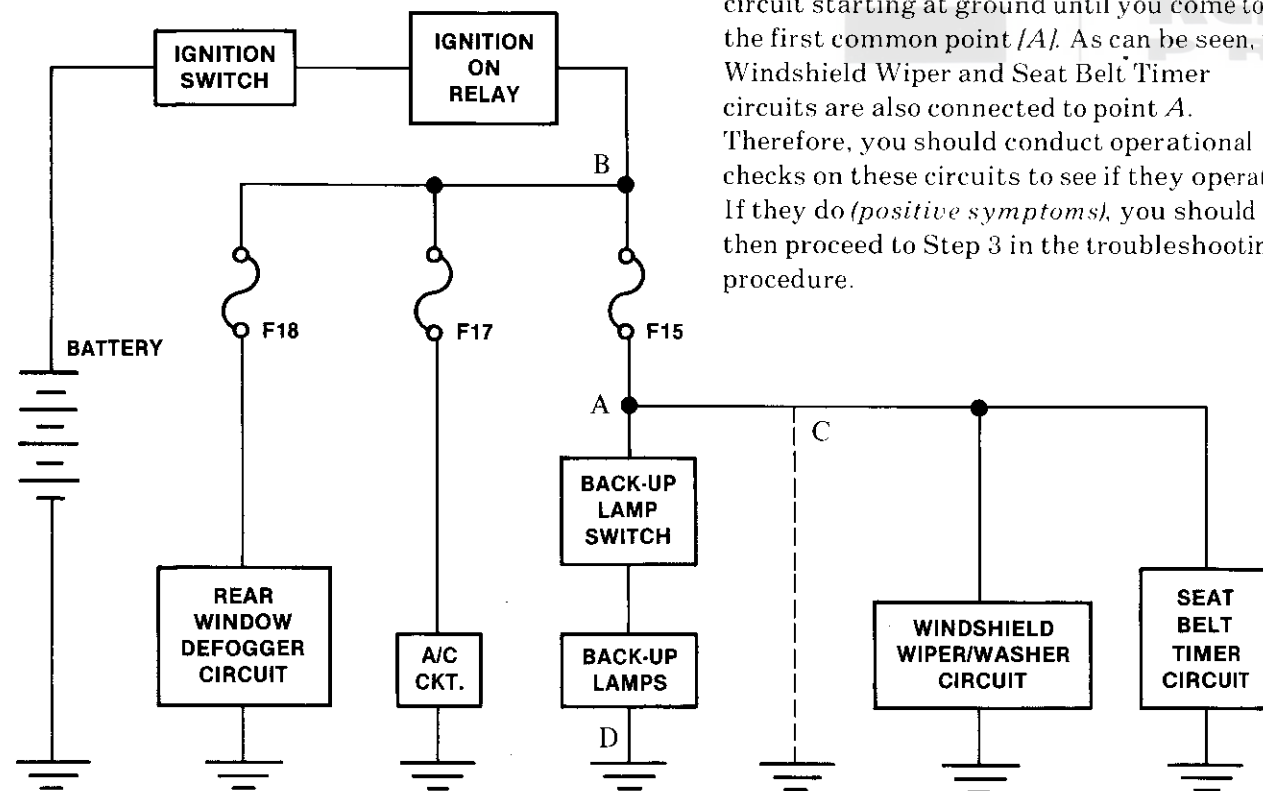

Fig. 1
Determining related symptoms is a very important step. It will save you much time in the long run. In order to get additional information about where the problem exists, *related symptoms* are found by conducting *operational checks* on circuits which are connected to the problem circuit. Operational checks are made *without* the use of test equipment. Your most important tool will be the *schematic*. For example, refer to Fig 1. If the customer complaint was that the Back Up Lamps didn't work, you would trace the circuit starting at ground until you come to the first common point /A/. As can be seen, the Windshield Wiper and Seat Belt Timer circuits are also connected to point A. Therefore, you should conduct operational checks on these circuits to see if they operate. If they do (*positive symptoms*), you should then proceed to Step 3 in the troubleshooting procedure.
After conducting operational checks (*Step 2*), the trouble will always lie between a check which resulted in *negative* symptoms, and a check which resulted in a *positive* symptom. Consider the following examples (*refer to Fig 1*):
6. Symptoms of Short Circuits [*refer to Fig. 1*]: